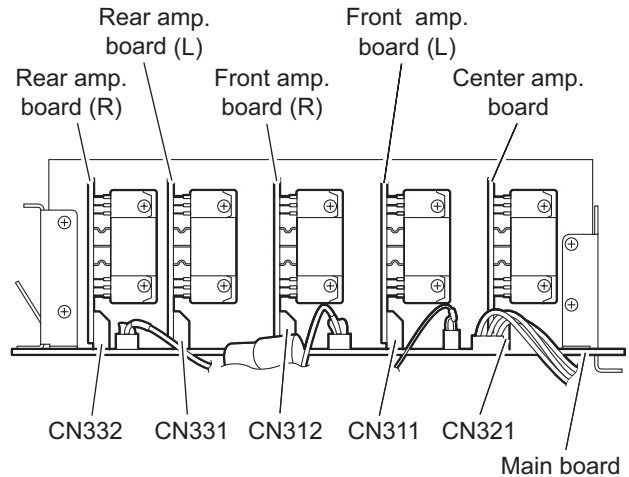

Fig.14
- (2) Disconnect the center amp. board from the connector CN321 on the main board. (See Fig.14)
- (3) Disconnect the front amp. board (L) from the connector CN311 on the main board. (See Fig.14)
- (4) Disconnect the front amp. board (R) from the connector CN312 on the main board. (See Fig.14)
- (5) Disconnect the rear amp. board (L) from the connector CN331 on the main board. (See Fig.14)
- (6) Disconnect the rear amp. board (R) from the connector CN332 on the main board. (See Fig.14)